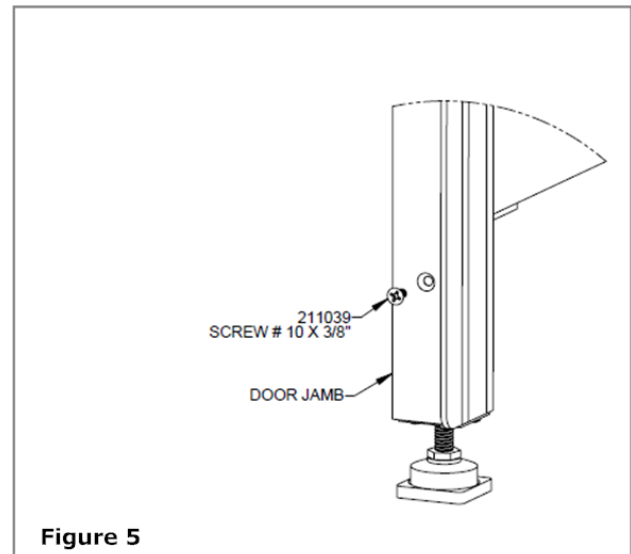

Figure 5
- Door stops and privacy angles are also included in your list of materials. The door stop will have holes for attaching to the post and a pocket fabricated for the door plunger. **See Figure 5.** The privacy angles have notches cut out of them for location of the hinges. Both angles are made to be the same height as the post. This makes it look cleaner and is easier to locate for attachment.